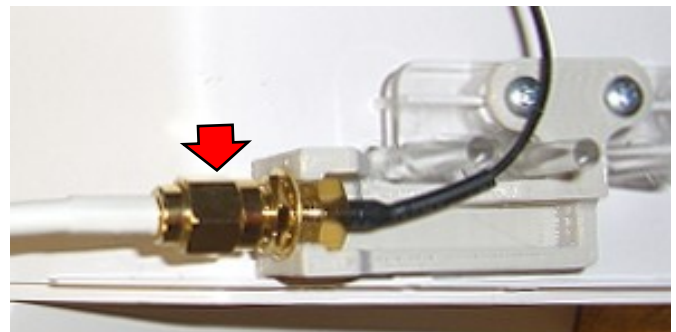

Fig. 3: Connect the cable to the Bracket.
7. **Connect the Antenna (SMA female) cable end** to the male threaded end of the Bracket (see Fig. 3). Route the cable through the Hub housing.